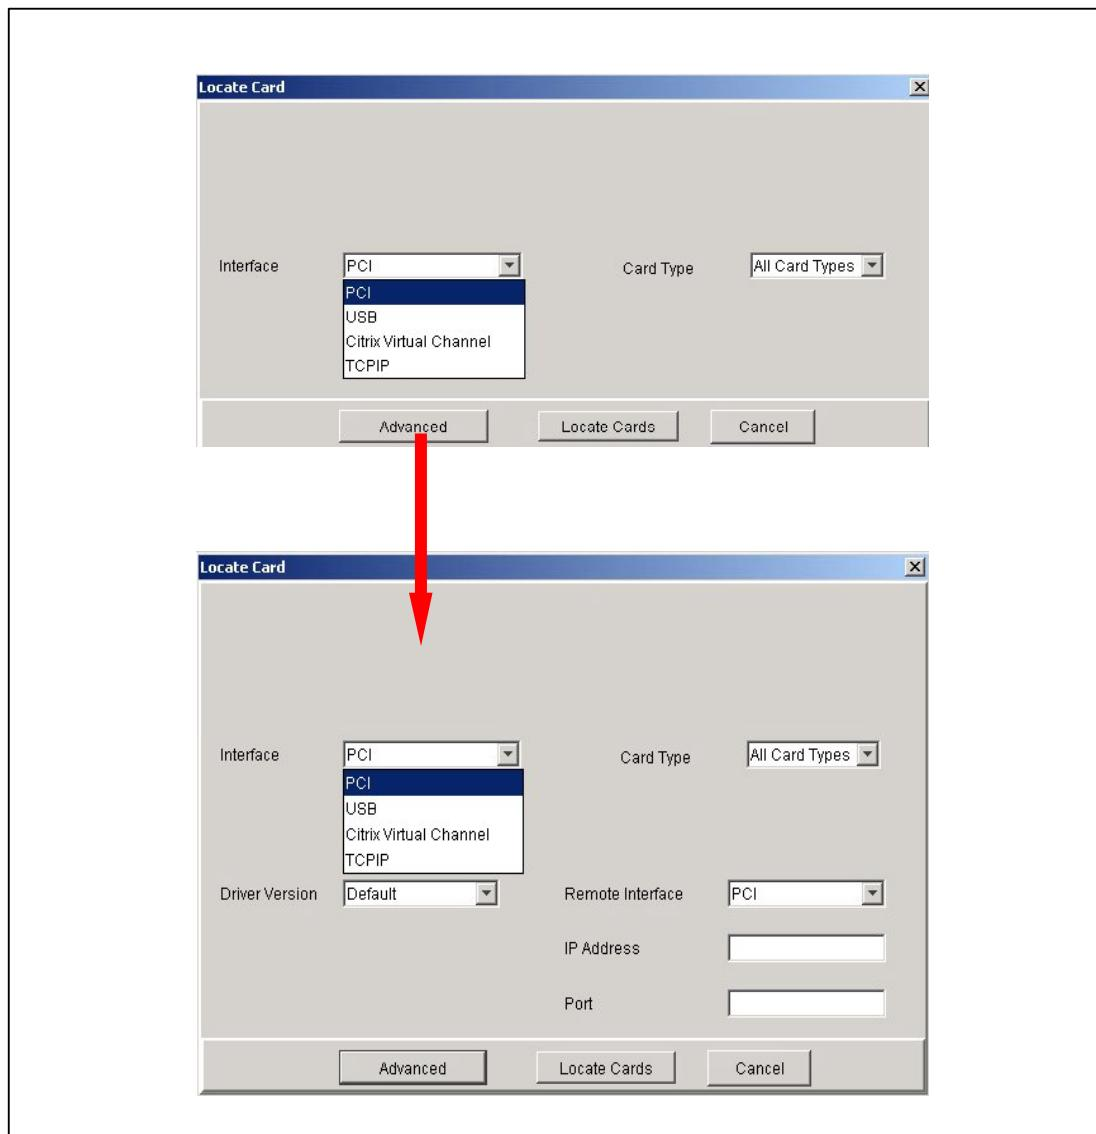

Figure 4: Dialogue box to locate cards
3. The Locate Card window is then displayed as shown in Figure 4. Select the interface type in the **Interface** box, and the card type in the **Card Type** box. Step 5 explains the purpose of these boxes in more detail.